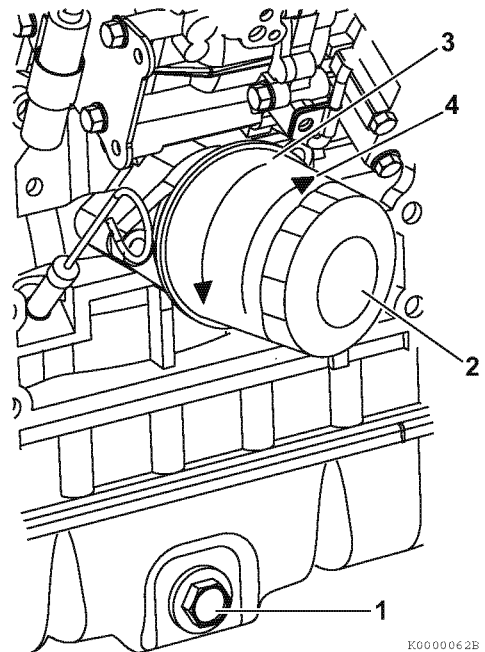

Figure 5-14
6. Remove the oil drain plug (1, **Figure 5-14**) from the engine oil pan. Allow oil to drain.
7. After all oil has been drained from the engine, reinstall the oil drain plug (1, **Figure 5-14**) and tighten to 39.8 - 47.0 ft·lb (53.9 - 63.7 N·m; 5.5 - 6.5 kgf·m).
1. Turn the engine oil filter (2, **Figure 5-14**) counterclockwise (3, **Figure 5-14**) using a filter wrench.
3. Lightly coat the gasket on the new oil filter with engine oil. Install the new engine oil filter manually by turning it clockwise (4, **Figure 5-14**) until it contacts the mounting surface. Tighten to 14 - 17 ft·lb (19.6 - 23.5 N·m; 2.0 - 2.4 kgf·m) or one additional turn using the filter wrench.